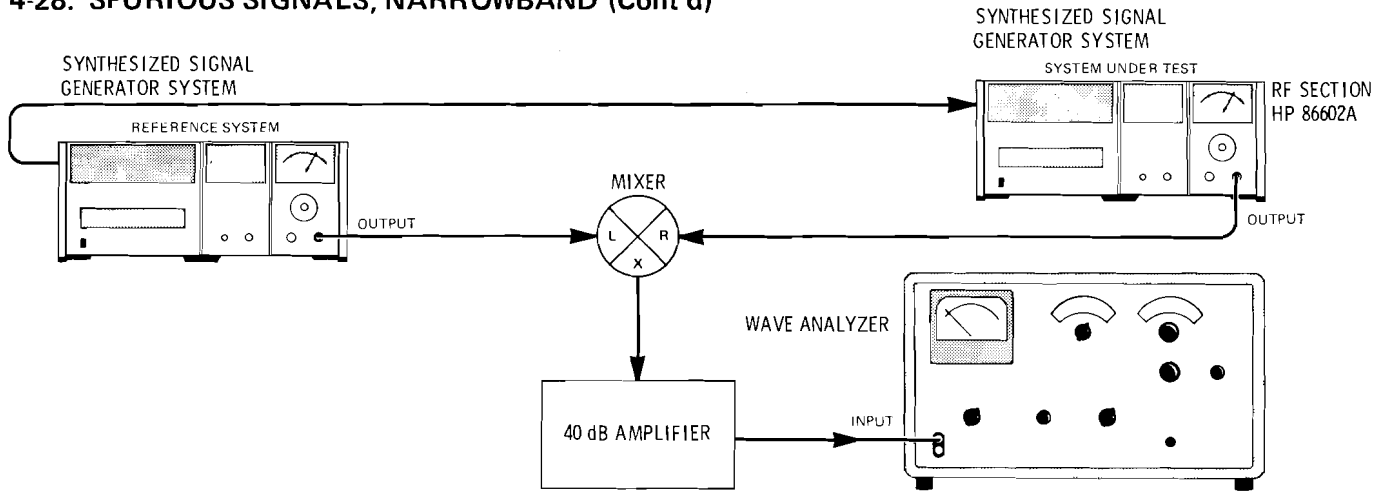

Figure 4-14. Narrowband Spurious Signal Test Setup
1. Connect equipment as illustrated in Figure 4-14.